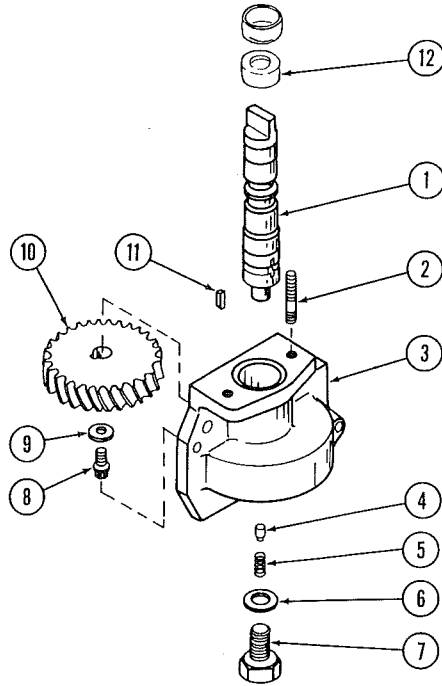

FIG. 59—INJECTION PUMP DRIVE, EXPLODED VIEW
- a. Remove the thrust button screw (Fig. 59), thrust washer, spring, and thrust button from the housing.